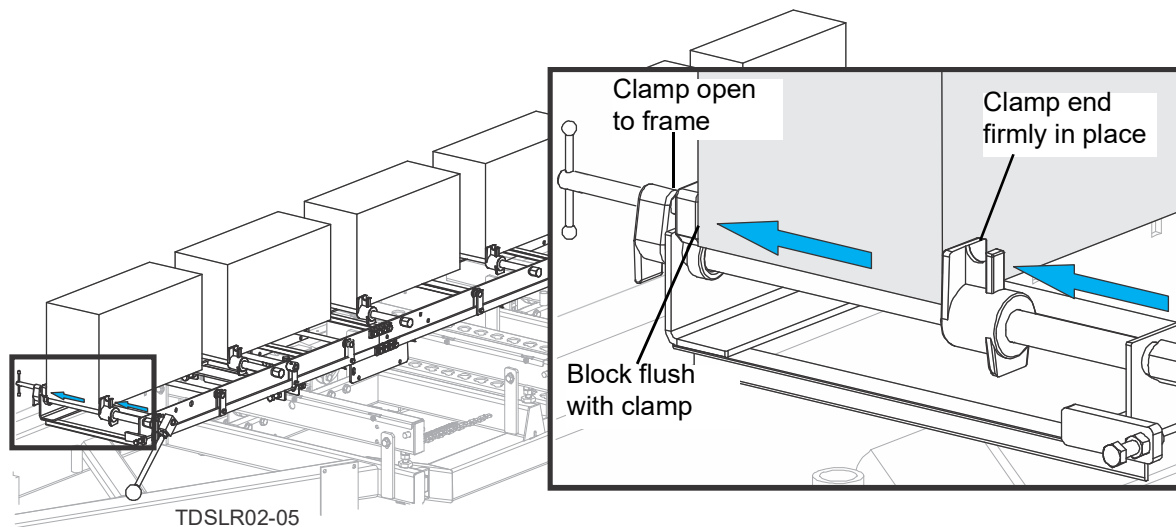

FIG. 5-3
3. Adjust the inner clamps as close to the SLR frame as possible to ensure the rear of the blocks are positioned over the cams. See FIG. 5-3.
4. Clamp up to six shingle blocks, one over each cam. See FIG. 5-3.